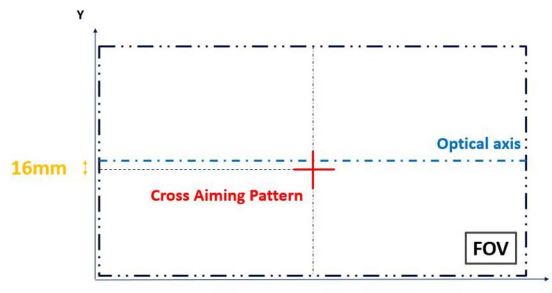

Figure 8 - Cross Laser Pattern
4. Place the **Grade A Barcode Test Chart** in front of the reader at the correct reading distance for your application (see the Global FOV Diagrams, starting on page 111 for reference). **The center of the cross is 16 mm (14 LEDs model) or 30 mm (36 LEDs model) under the optical axis**, as shown in Figure 8.